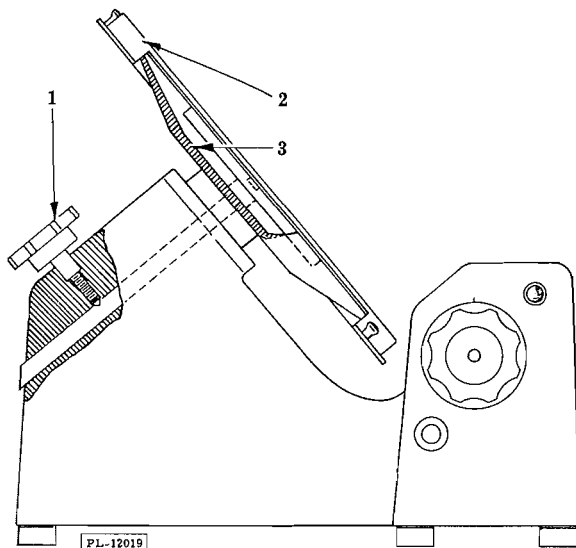

Fig. 2
- 5.2.5 Loosen knife guard locking screw (1, Fig. 2), pull knife guard (2, Fig. 2) straight away from knife (3, Fig. 2) until center stud clears mounting hole.